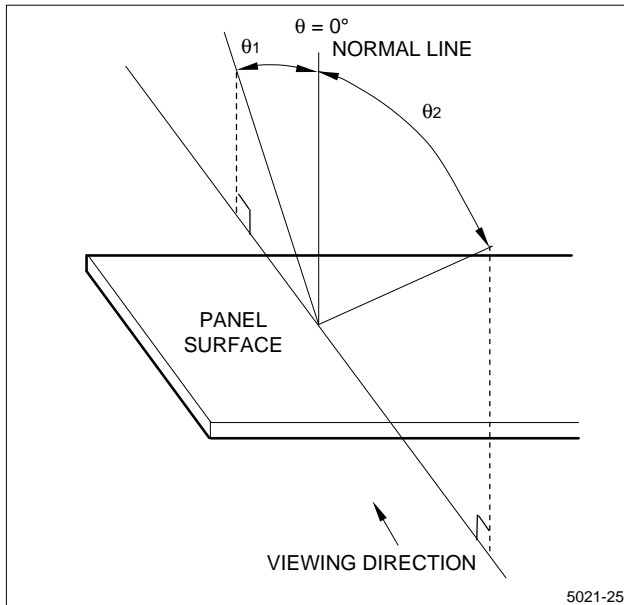

Figure 24. Dot Matrix LCD Viewing Angle
- This unit's viewing angle is illustrated in Figure 24 and as follows: